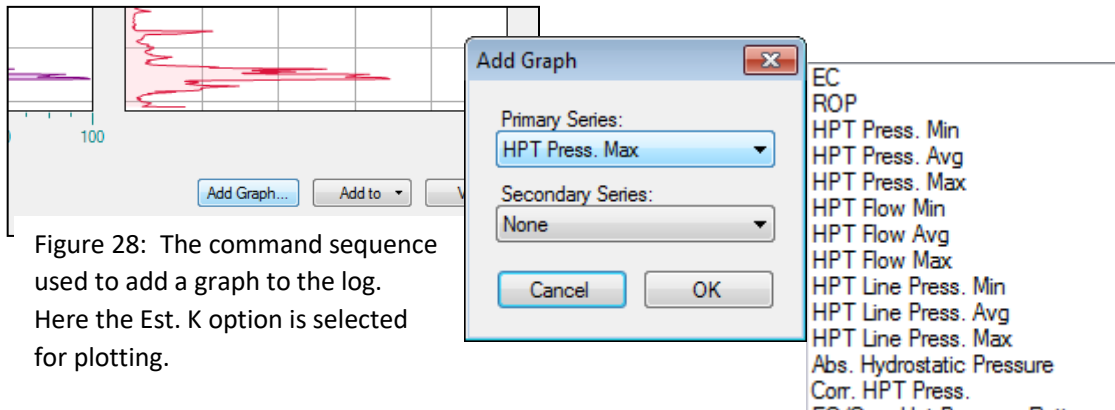

Figure 28: The command sequence used to add a graph to the log. Here the Est. K option is selected for plotting.
1. Click on the Add Graph icon at the lower right of the log window (Figure 28) to open the *Add Graph* window.